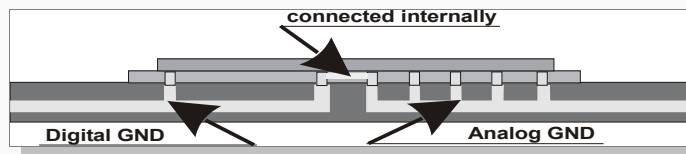

Figure 14: Ground plane of the JP13-LP family GPS receivers
- ◆ planes are connected inside the receiver (see figure 14).